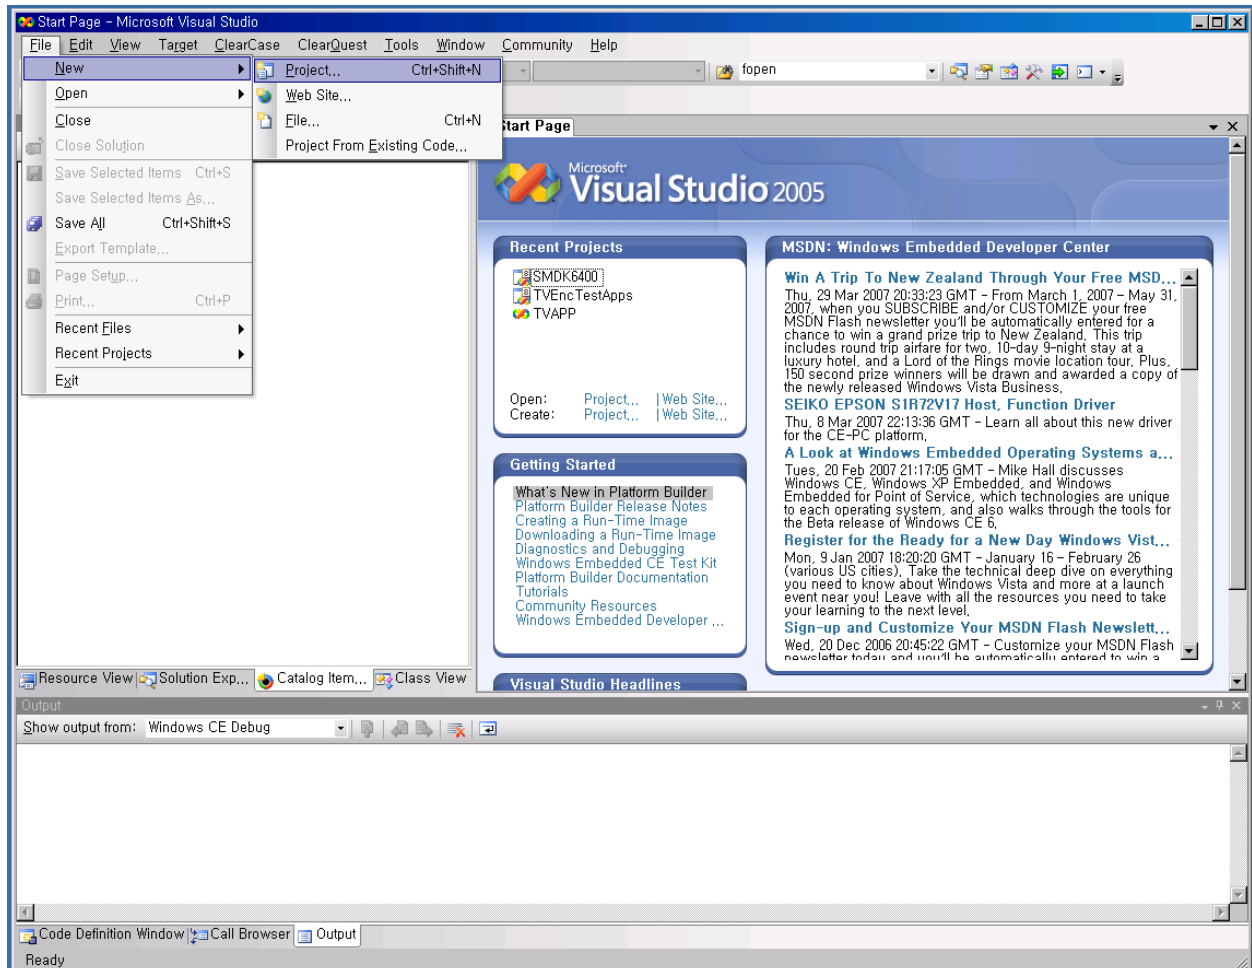

Figure 3-1 Creating New Project
1. On the **File** menu in the Visual Studio 2005 window, click **New /Project** as shown in figure 3-1.